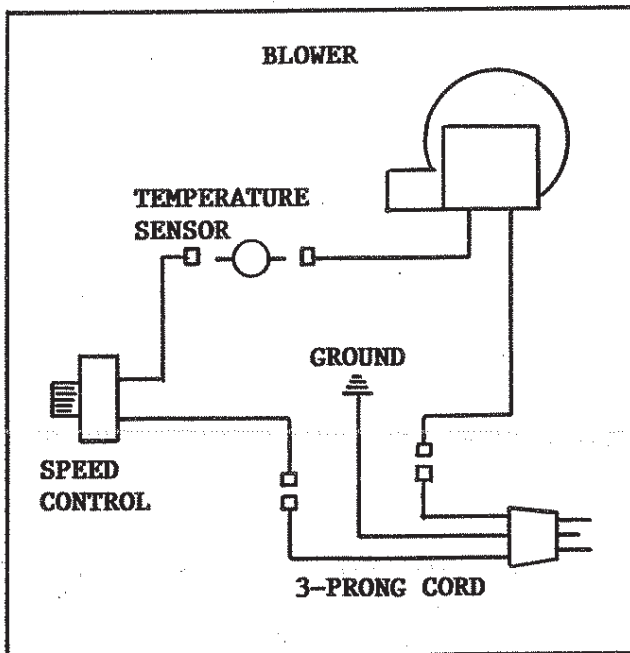

FIGURE 4
CAUTION: This unit is equipped with a three (3) wire ground cord for protection. Never remove the ground lead. Be sure the electrical plug provided is plugged into a proper three (3) prong outlet. If an extension cord is used, be sure it has the proper ground and is of the same or greater gauge than the cord provided on the unit. If the extension cord is too light, the fan may fluctuate its speed and operate improperly. See Figure 4 for blower wiring diagram.